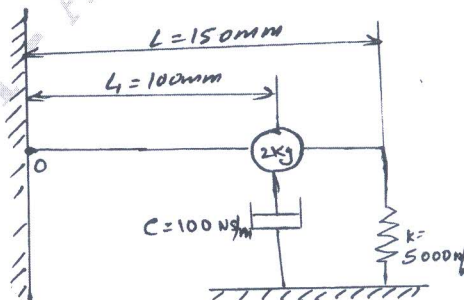

Fig. Q3 (b)
- b. Obtain the differential equation of motion for the system shown in Fig. Q3 (b) and hence find